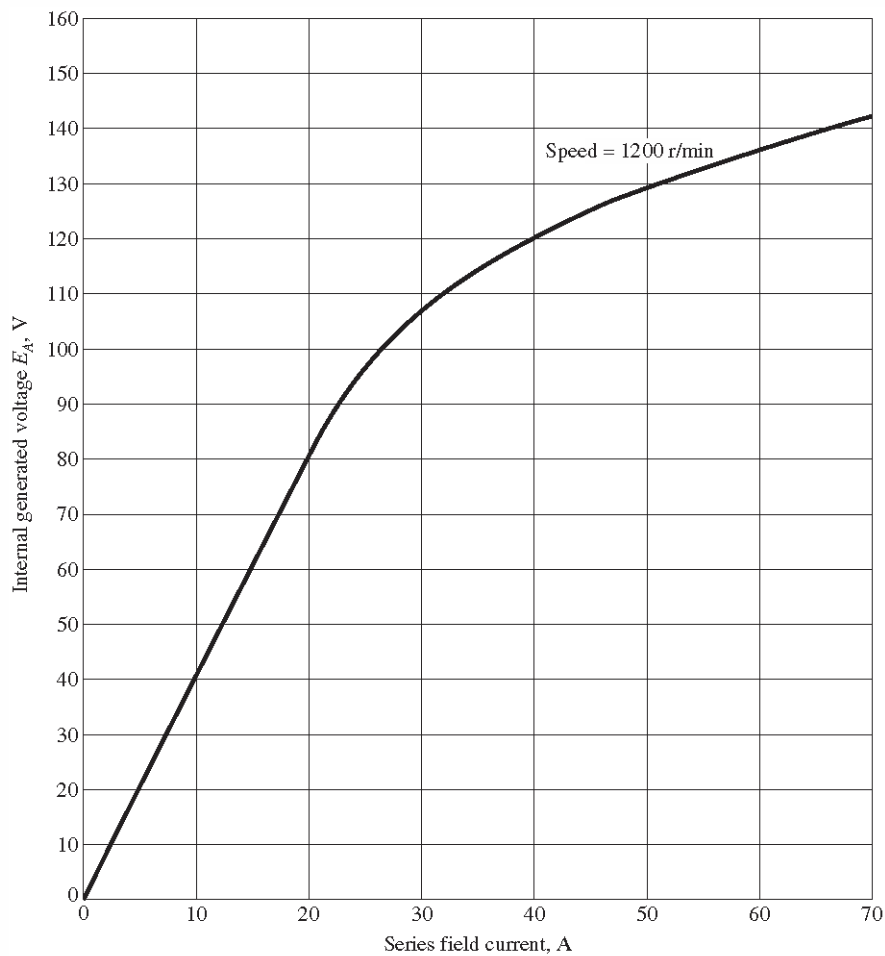

FIGURE P8-5
- 8-13.** A 7.5-hp 120-V series dc motor has an armature resistance of 0.1Ω and a series field resistance of 0.08Ω . At full load, the current input is **56 A**, and the rated speed is 1050 r/min. Its magnetization curve is shown in Figure P8-5. The core losses are **220 W**, and the mechanical losses are **230 W** at full load. Assume that the mechanical losses vary as the cube of the speed of the motor and that the core losses are constant.
From Figure P8-5, the internal generated voltage E_{A2} for a current of 40 A and a speed of $n_o = 1200$ r/min is $E_{A2} = 120 \text{ V}$, and the internal generated voltage E_{A1} for a current of 56 A and a speed of $n_o = 1200$ r/min is $E_{A1} = 133 \text{ V}$.